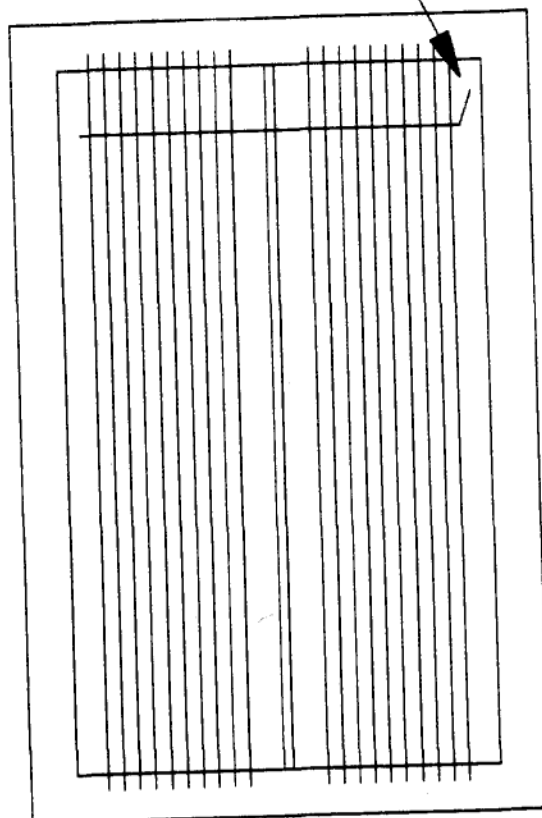

FIGURE 10-29: Make electrical connection to rods.
**WIRE GRID.** Connect the wires to form a uniform electrical grid. I do this by soldering a copper or steel connecting wire across them prior to painting the stator (Fig. 10-29).